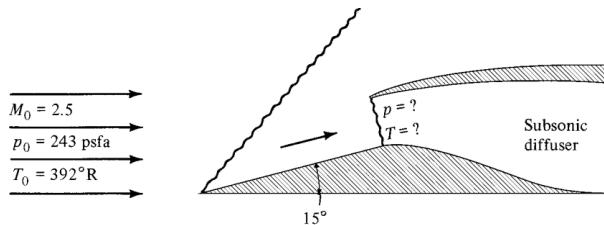

Figure P7.13
- 7.13** Pictured in Figure P7.13 is the air inlet to a jet aircraft. The plane is operating at 50,000 ft, where the pressure is 243 psfa and the temperature is 392 °R. Assume that the flight speed is $M_0 = 2.5$.